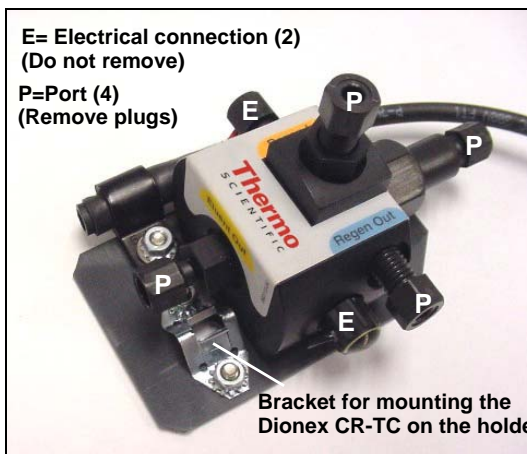

Figure 38. Dionex CR-TC
2. Before installing the Dionex CR-TC, note the metal ball stud inside the bottom of the cartridge holder (see Figure 37) and the bracket on the Dionex CR-TC mounting plate (see Figure 38). These are used to mount the Dionex CR-TC inside the holder after it is plumbed.
3. Remove the plugs from the four ports, labeled “P” in Figure 38. Do not remove the two electrical connections, labeled “E” in the figure.